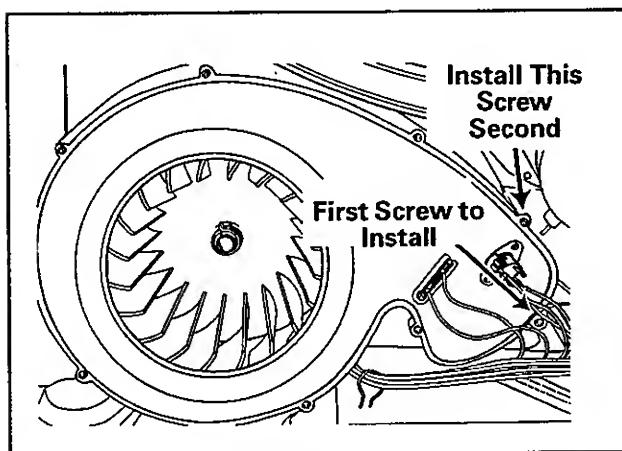

Figure 11-4
3. Install the first screw closest to the exhaust duct (right-most screw, *Figure 11-4*).